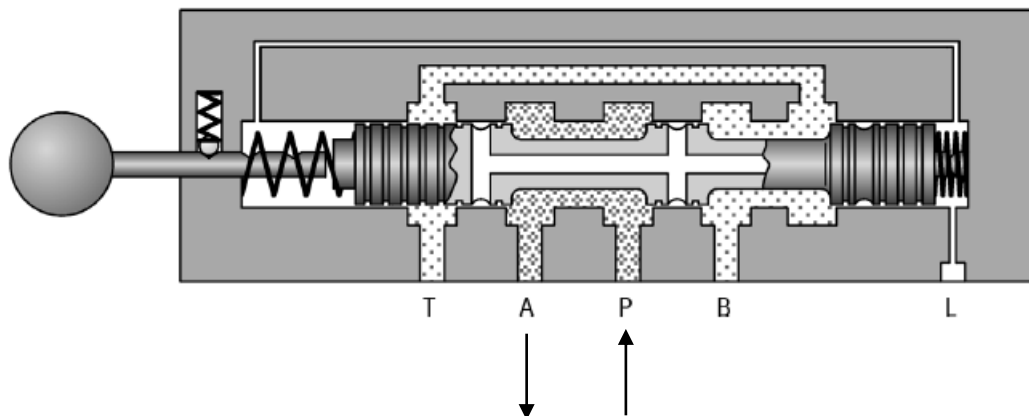
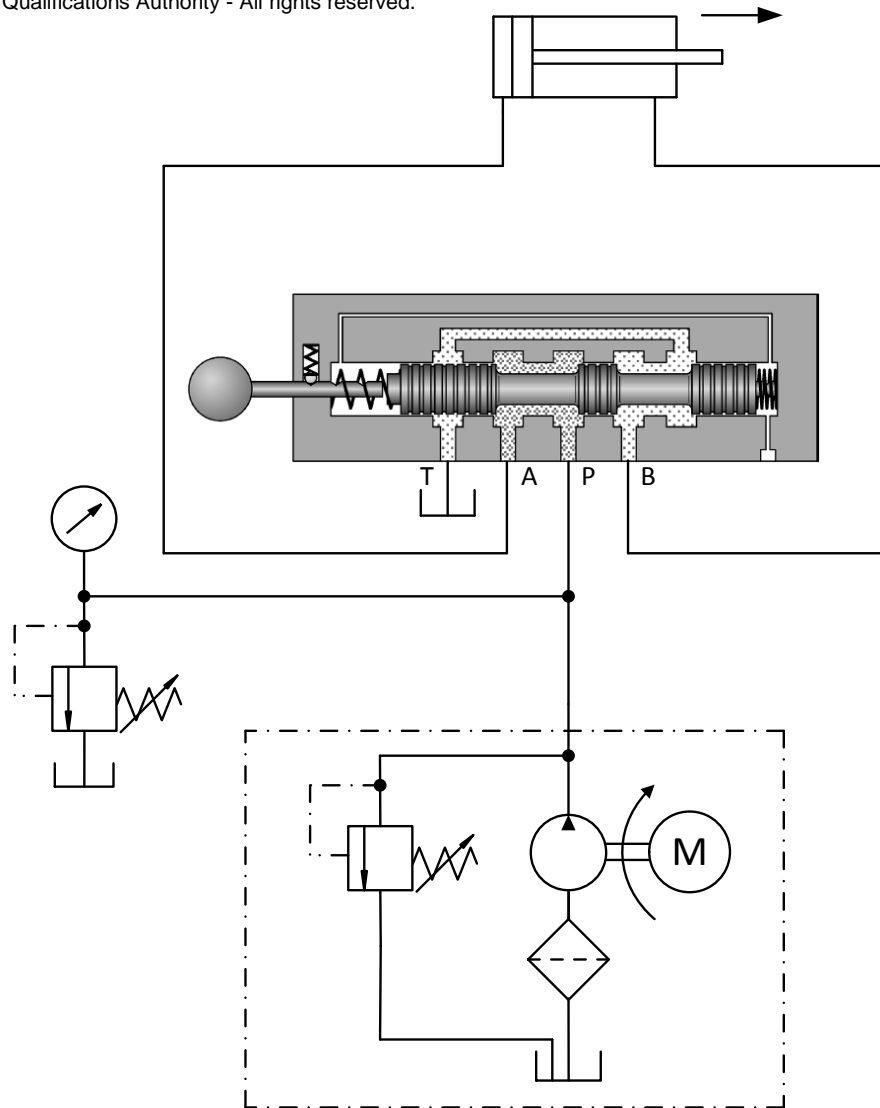

FIG 4.
FIG 5.
B. When the spool is moved into position “a” of the valve, the oil is directed from port p to port a of the directional control valve (into the cylinder), causing the cylinder rod to extend. As the rod extends the oil in the annular side of the cylinder returns through the control valve to the reservoir. This is shown in Fig 4 and Fig 5 on the next page.